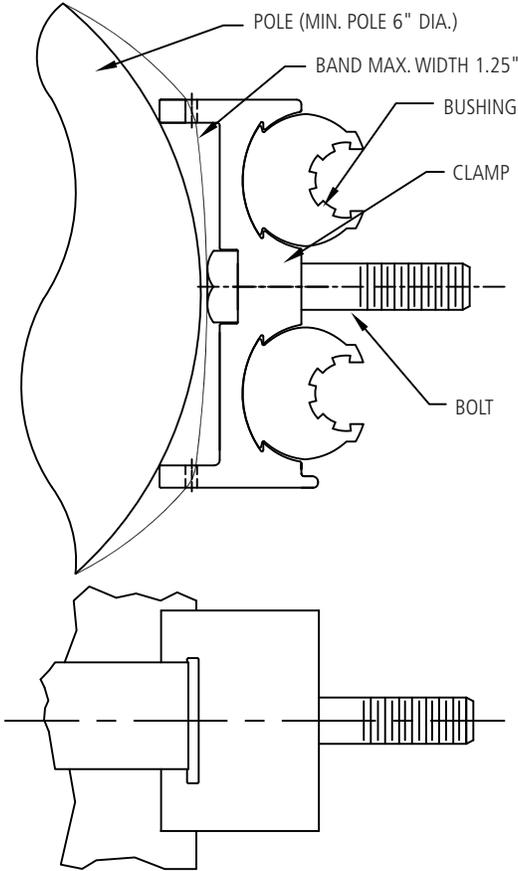

FIG. 1
1. Assemble bolt with bottom clamp as illustrated in **Fig. 1**.
2. Band (max. width 1.25") the bottom clamp (band to be supplied by customer) securely to the pole at the appropriate location as illustrated in **Fig. 1**.